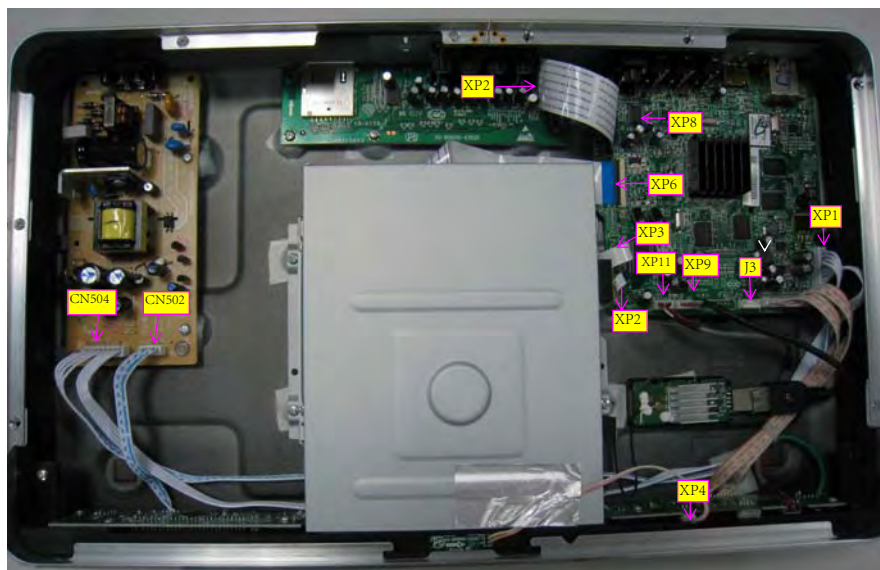
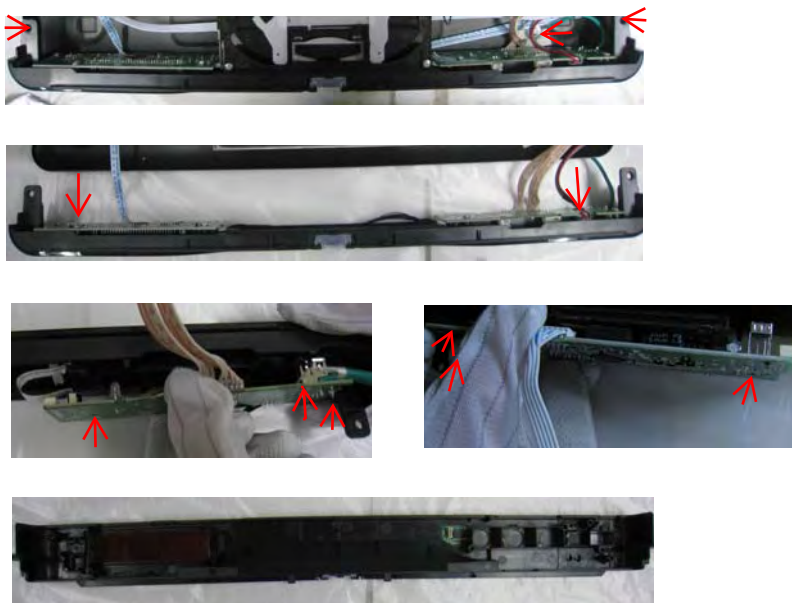

Figure 4
Figure 6
Step4: Dismantling LED Board, Front Panel,Loader need disconnect the connectors (XP4,XP6,XP3,XP2), need release 3 snaps of Front and 2 snaps of bottom cabinet , then gently pull the Panel out from the set. (Figure 4 - Figure 6)
Step5: Dismantling LED Board,Loader disconnect the 4 connectors (XP6,XP3,XP2)(Figure 4)
Step6: Dismantling Front panel, first remove the 3 screws, and then disconnect 4 connectors (J3,XP4,XP11,CN502)(Figure 6)
then remove 6 screws on FB Board and MC Board to dismantle the Front panel. (Figure 6)